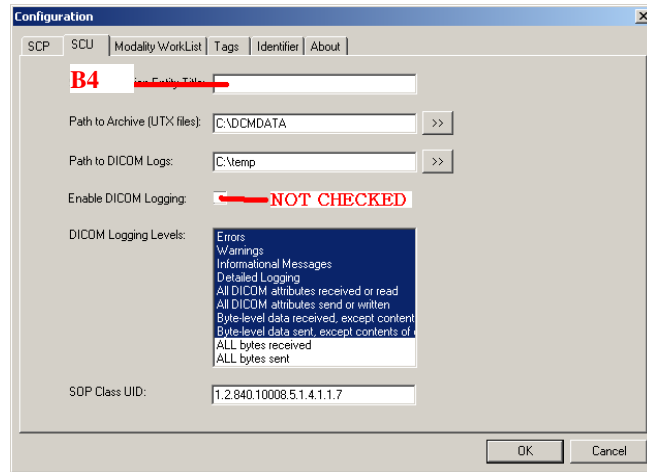

Figure 26
2.2.4. Enter the information from the DICOM worksheet in Section B4 as shown in Figure 26.